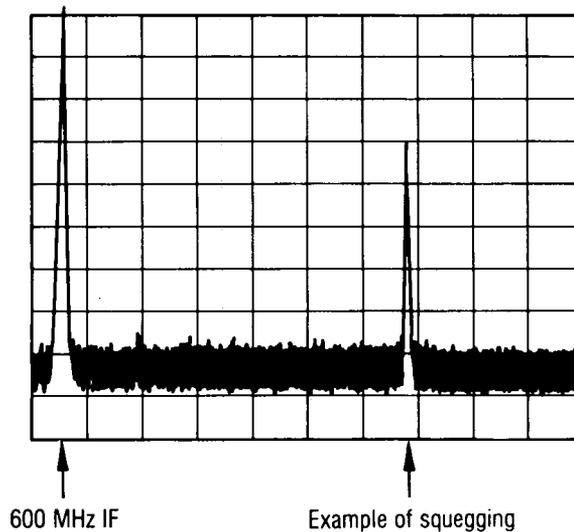

Figure 5-45. Unlevelled Squегging Displayed on Spectrum Analyzer
62. Using the [▲] key on both the DUT and the LO, step through band 2, observing the spectrum analyzer display at each step. There may be responses due to mixing products. These will appear as low level signals. A squегging response will appear as a higher amplitude signal as shown in Figure 5-45. If squегging occurs at DUT frequencies below 10 GHz, adjust A22R45 (2A) slightly CCW to eliminate squегging. If squегging occurs at frequencies above 10 GHz, adjust A22R42 (2B) to eliminate the squегging. Note, if the control is adjusted and there is no effect on the response, the response is probably a mixing product.